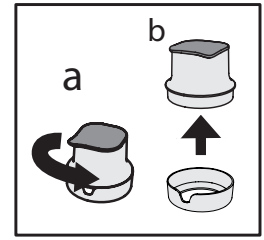
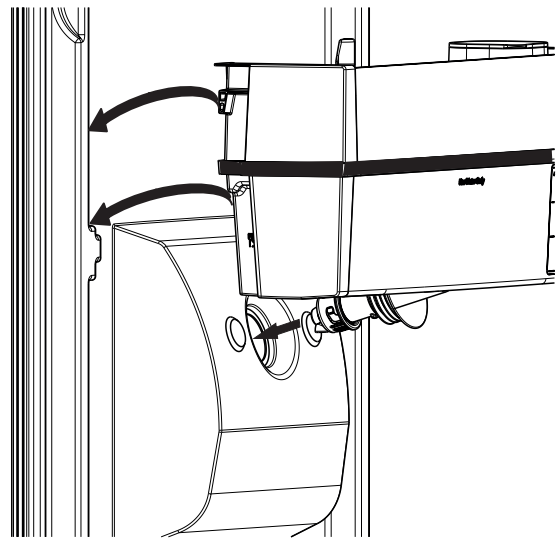

Fig 5
Fig 15
- Remove the funnel from the filter housing rotating it anticlockwise (Fig 5. a - b).
Then mount the bottle balcony on the water tank and assembly them on the door as suggested in Fig 15. Once assembled, mount the filter with the carbon cartridge (as described in Fig 5, 6, 7, 8).